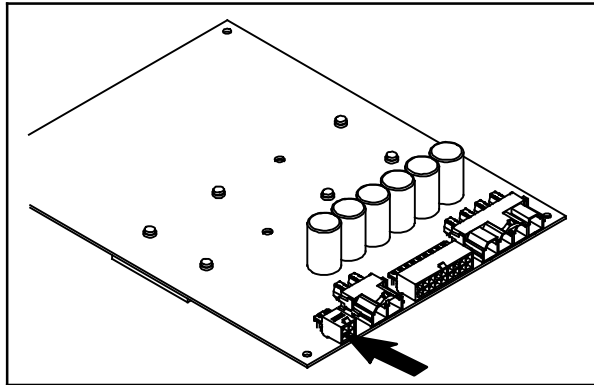
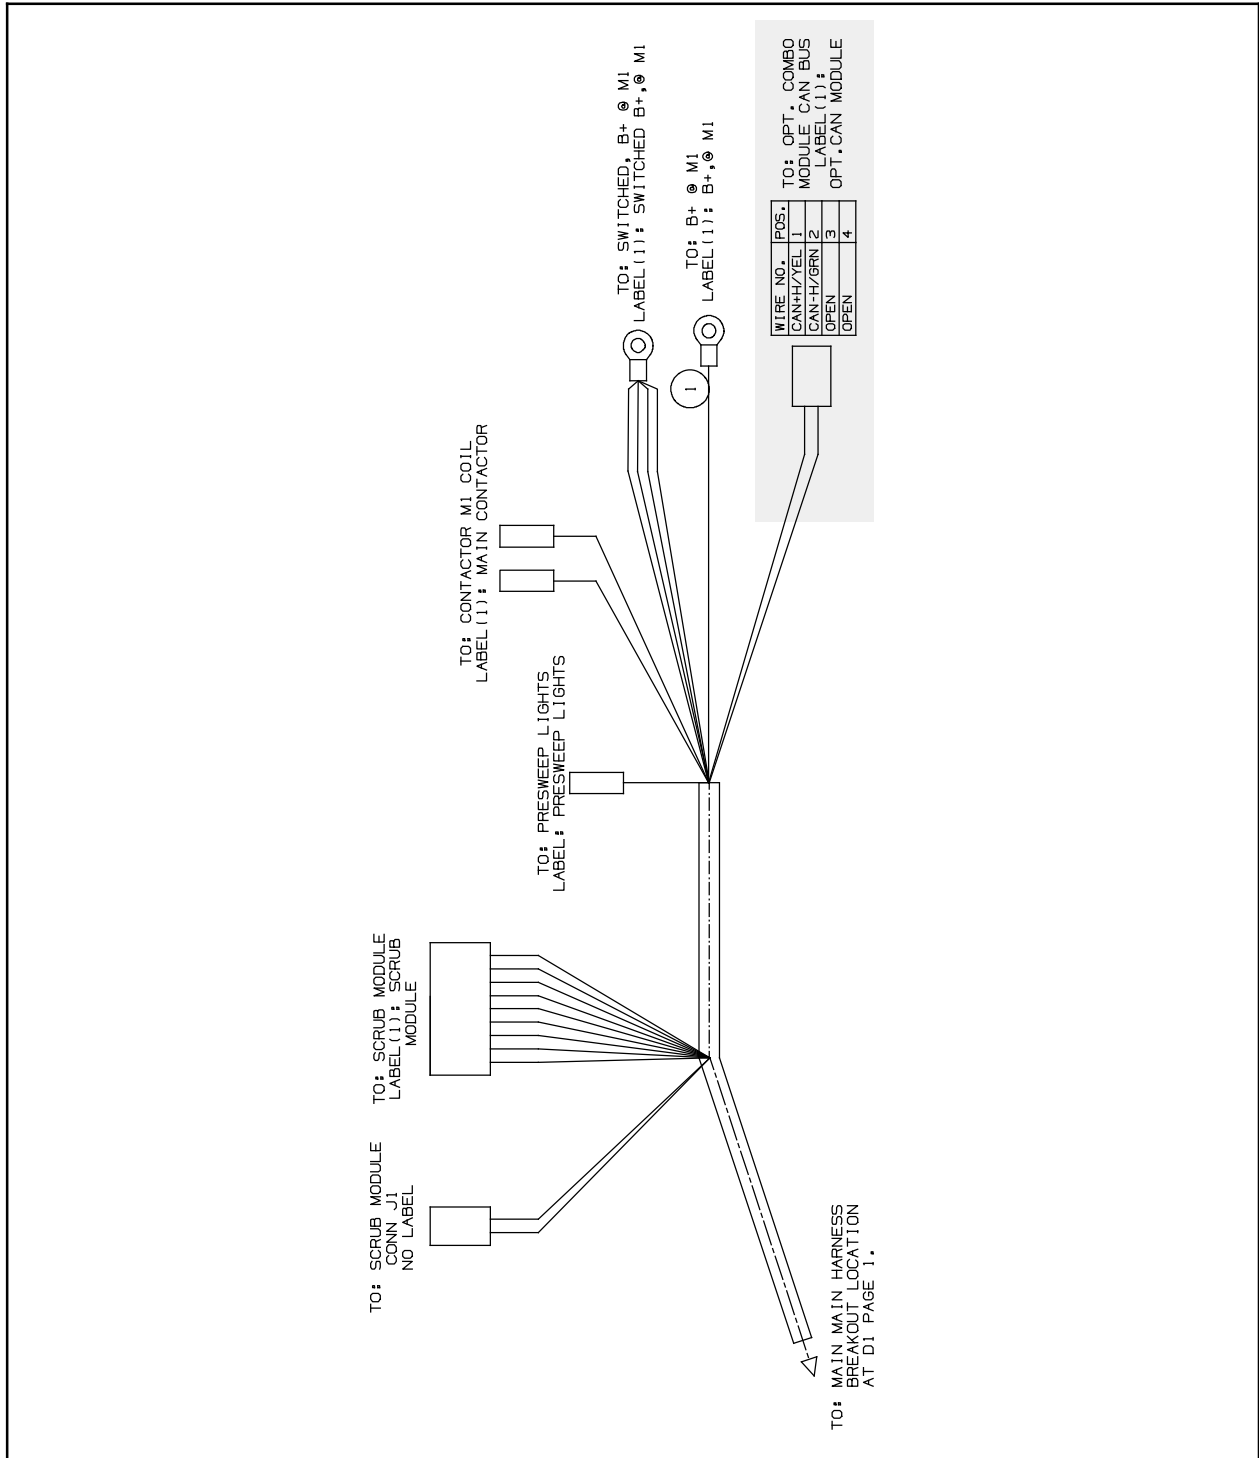

FIG. 10
FIG. 12 - Machine Main Wire Harness CAN BUS Lead
24. Connect the main wire harness CAN BUS lead to the circuit board (12). (Fig. 10 / Fig. 12)